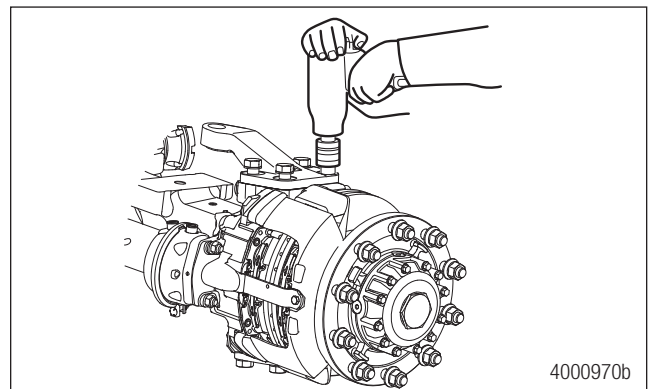

Figure 5.1
10. With the wheel end appropriately secured, remove the four capscrews. Remove the steering arm or upper king pin cap. Set the steering arm or upper king pin cap shims aside for re-installation. Figure 5.1.